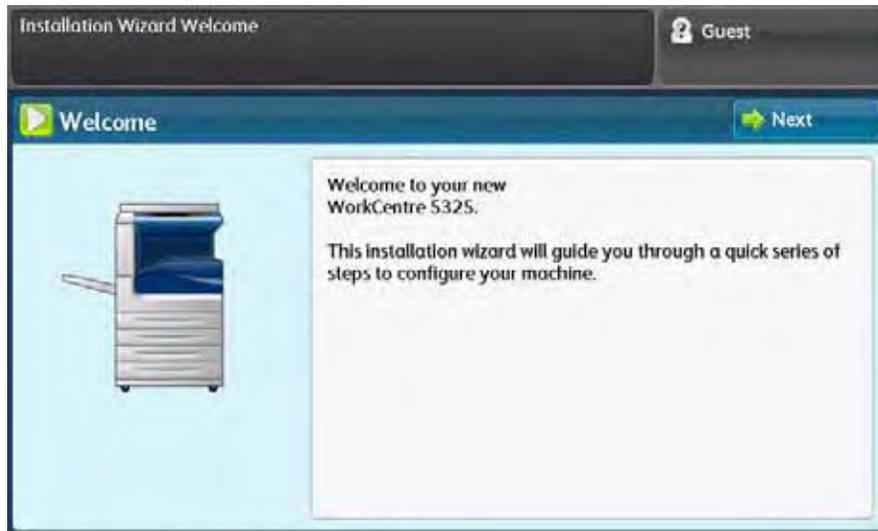

Figure 2 Installation Wizard Welcome screen
1. (Figure 2) When the processor is ready and the software download is complete, the Installation Wizard Welcome screen displays. Press **Next**.